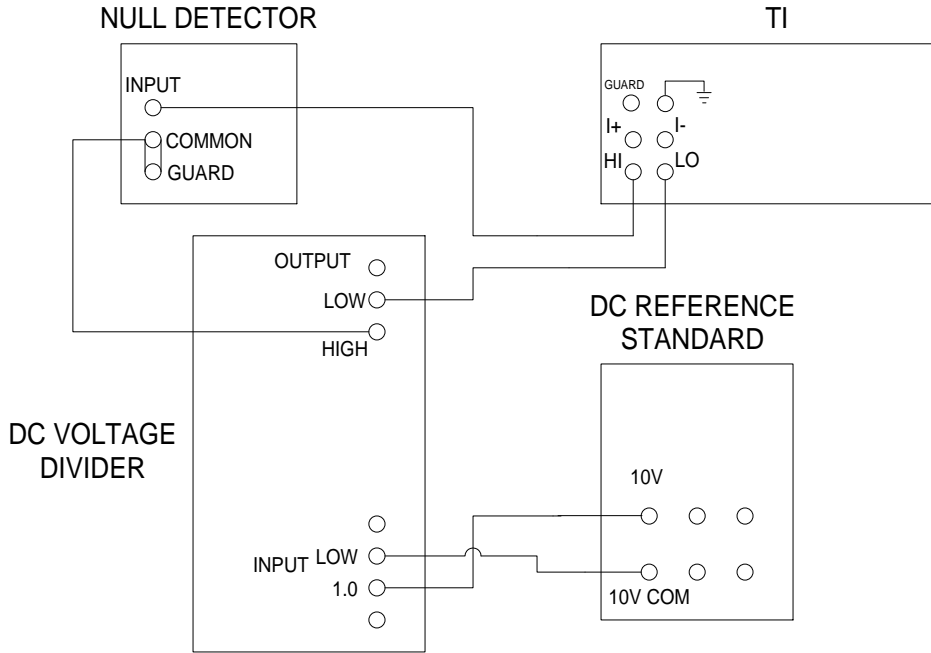

Figure 3.
4.5.41 Change the test setup as shown in Figure 3.